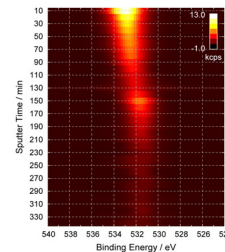

Fig. 5. Plot 3D-Colour Profile: O 1s
4. Plot 3D-Colour Profile: Plot of the intensity of spectra or sum curves as brightness (see Fig. 5, 11, 17),